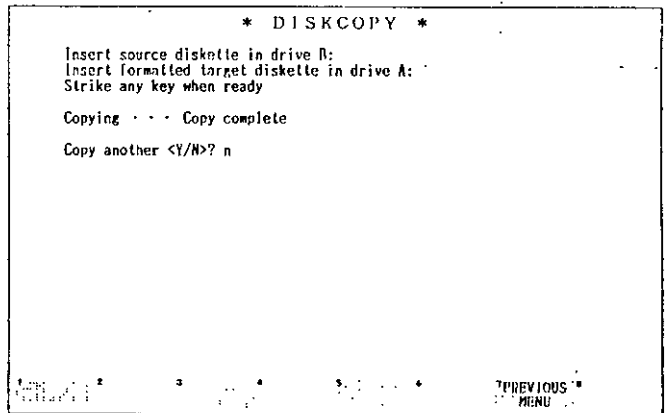

Fig. 5.29
3. To copy other disks in Fig. 5.29, first depress **Y** key, and then make the same operations as shown above.
(4) FILE DELETING